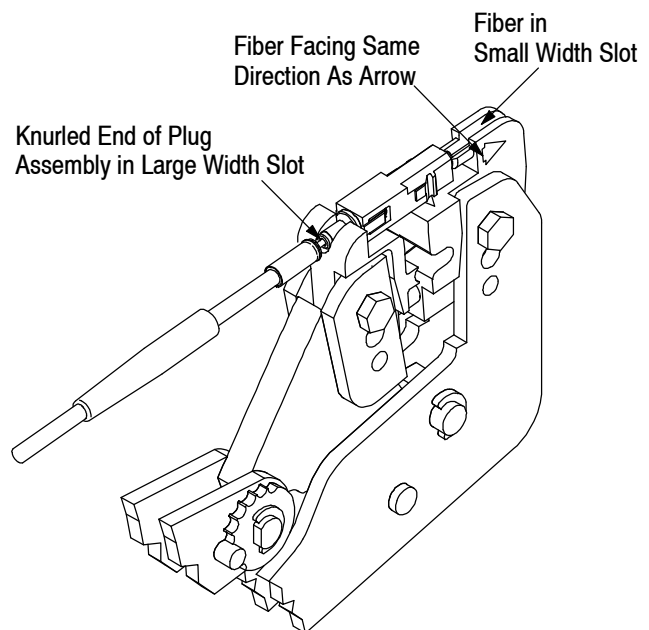

Figure 8
4. Position the plug assembly in the dies so that the fiber is facing in the same direction as the arrow on the die set. Carefully insert the fiber into the small width slot of the die set. The knurled end of the plug assembly should be positioned in the large width slot of the die set. See Figure 8.